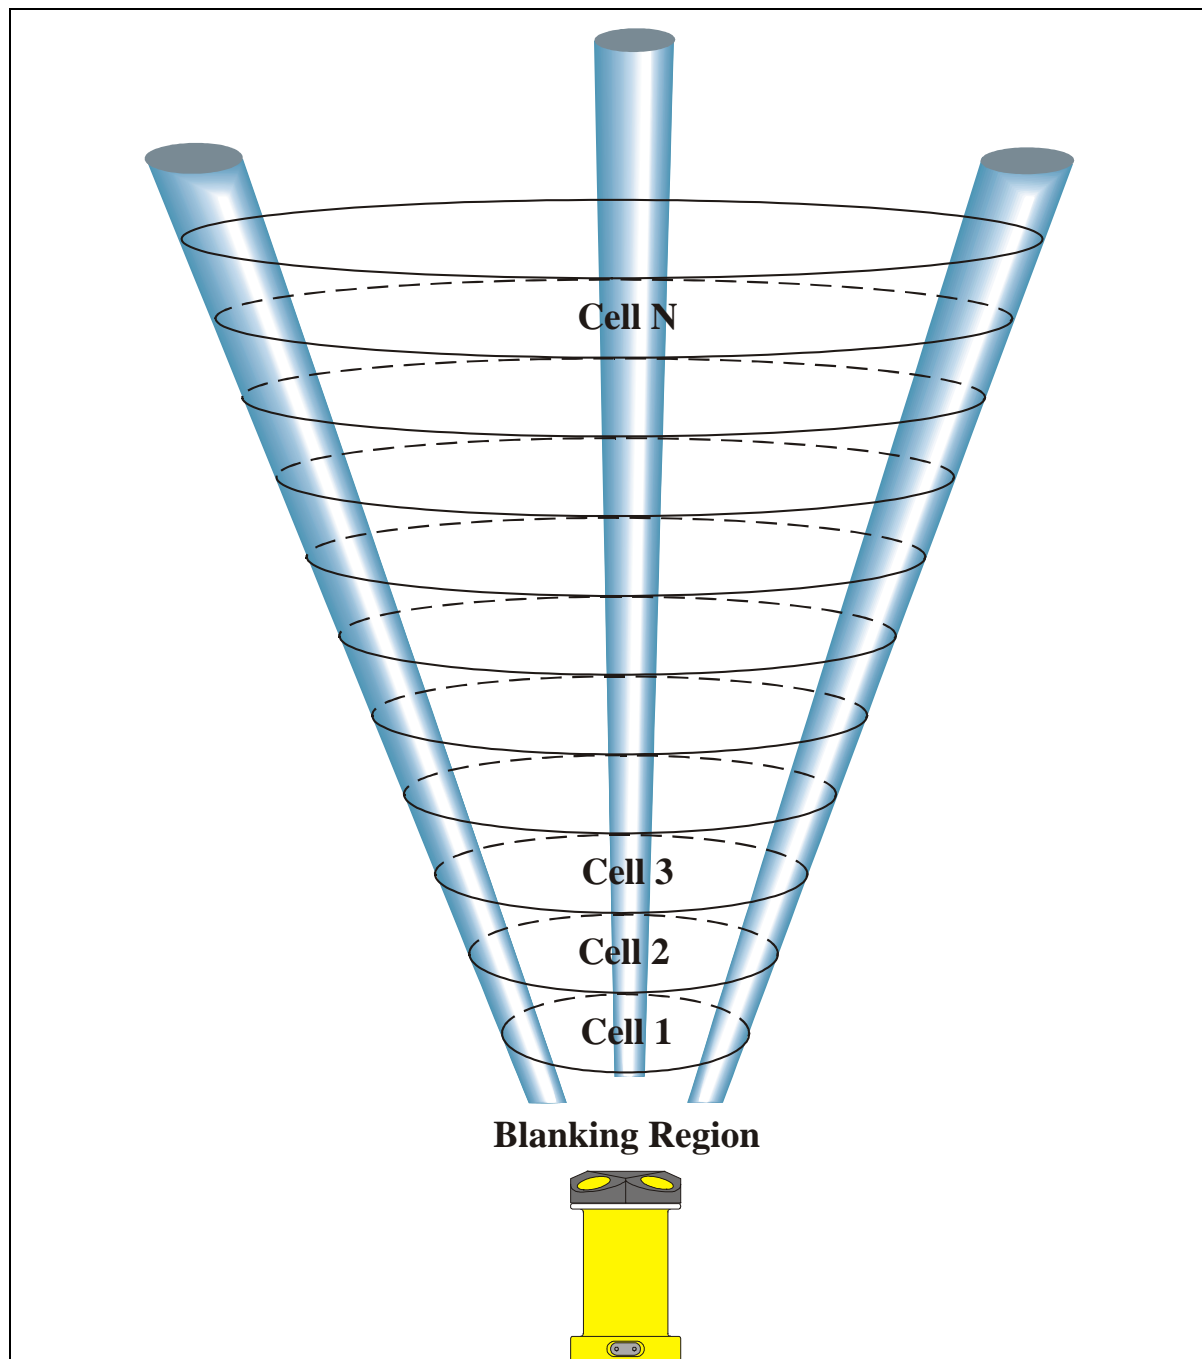
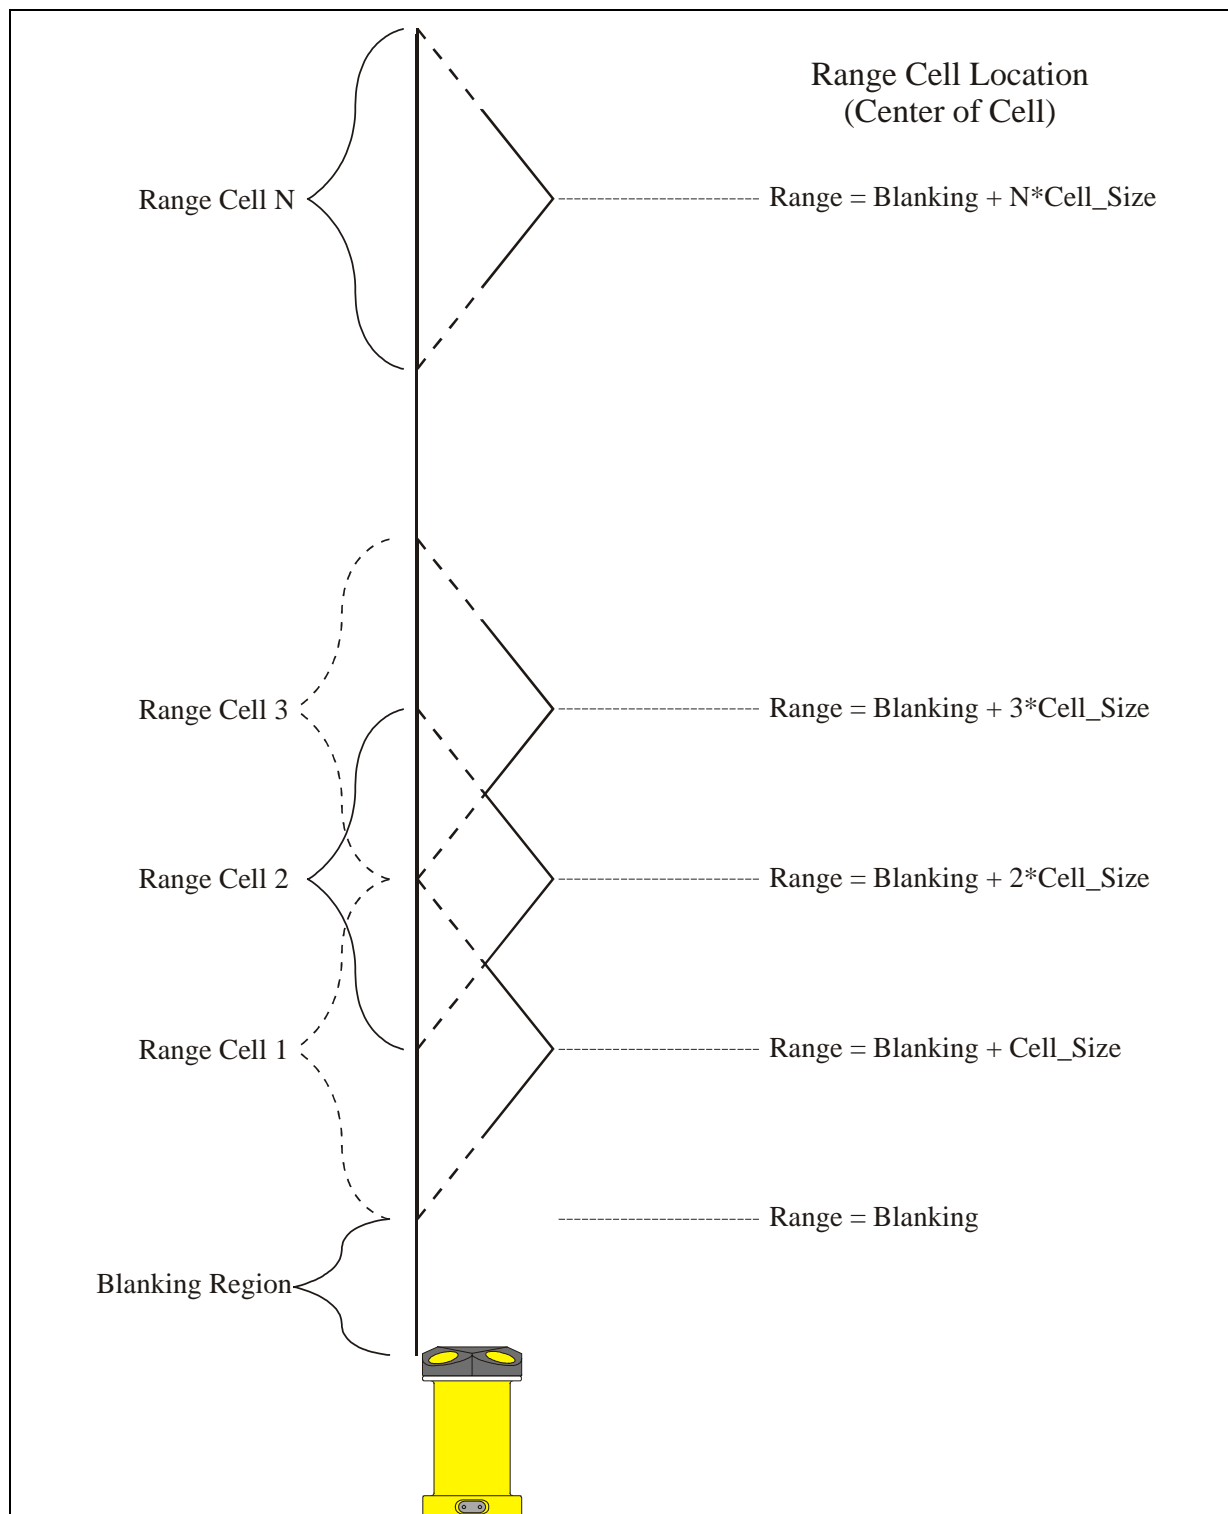

Figure 3 – ADP Beam Geometry and Current Profiling
Figure 4 – ADP Range Cell Location
Figure 3 shows the operation of the ADP for 3D (i.e., 3-axis) current profiling.
The ADP profile is divided into different regions, as shown in Figure 3 and Figure 4.
Figure 4 shows the location of range cells within an ADP profile. The location is different than might be expected because of the true spatial definition of an ADP range cell.
- The location of the center of each range cell is as shown in Figure 4.